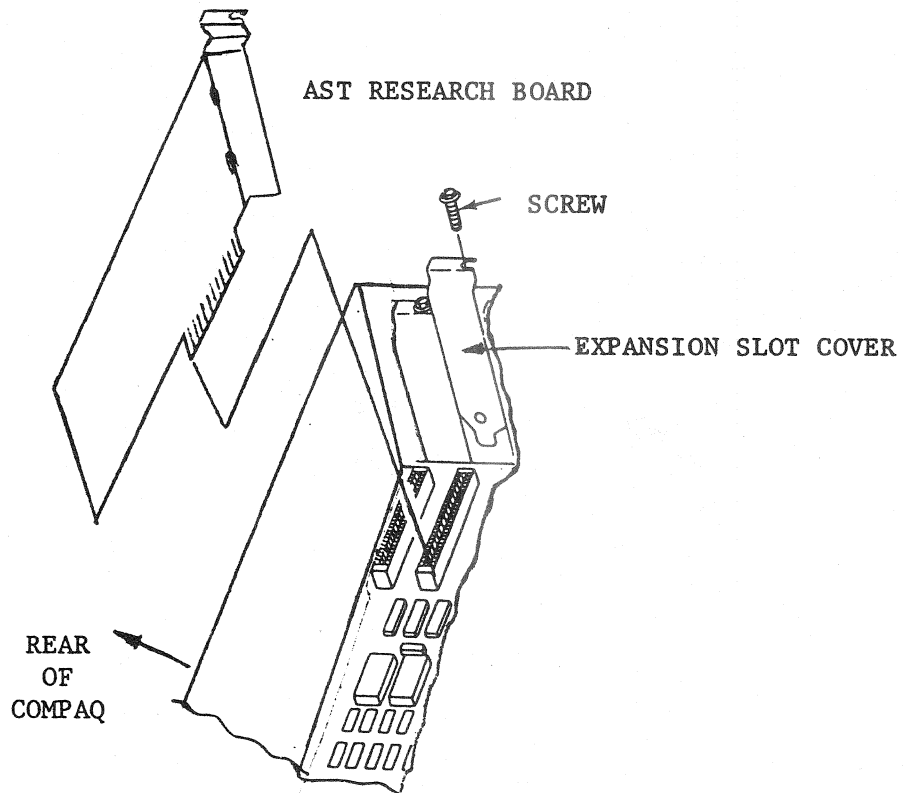

Figure A-4. Input/Output Compartment
Step 9 - Reinstall the screw removed in Step 6, above. This fits into a metal fitting on the Board and secures it. (See Figure A-4.)